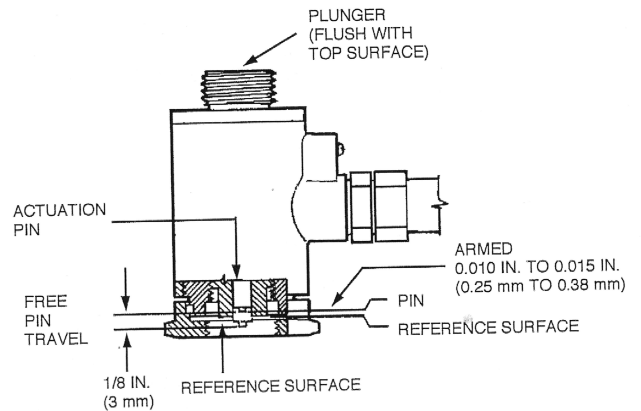

FIGURE 6
- a. The actuator is armed if the following conditions exist (See Figure 6):